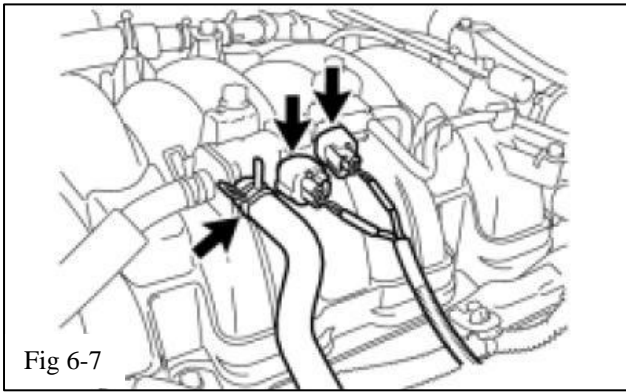

Fig 6-7
- (h) Disconnect the purge VSV connector, the hose from the VSV, and the ACIS connector (Fig 6-7). Disconnect the purge line hose from the body of the purge valve. Disconnect the purge hose from the front of the intake manifold, but leave it connected to the front of the purge valve. Unbolt the purge valve and set it and the bolt aside for now.